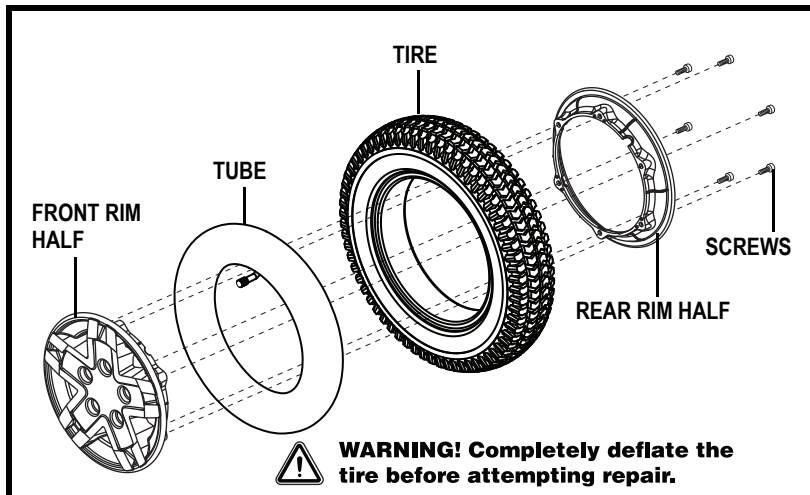

Figure 25. Q6 Edge Drive Wheel Disassembled
6. Remove the screws and separate the front and rear rim. See figure 25.
10. Reinstall the five (5) lug nuts onto the wheel hub and tighten.